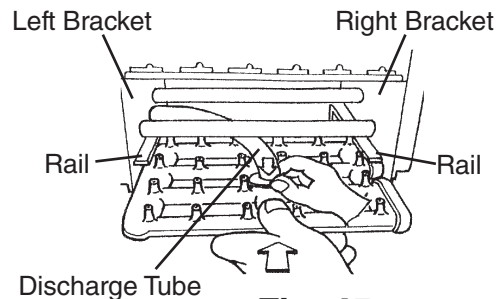

**Fig. 43**
- 8) Remove the two caps. See Fig. 43.